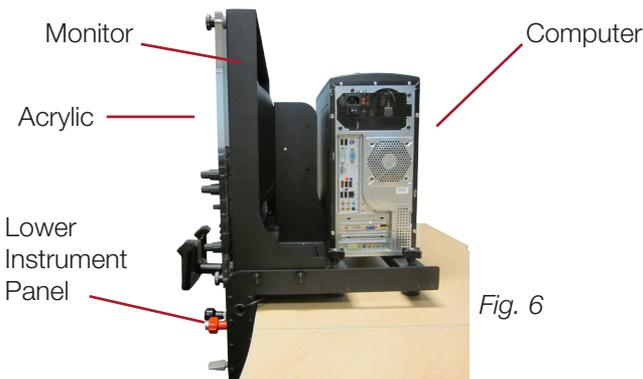

Fig. 6
- Place the Computer behind the Monitor on the Lower Instrument Panel. (See Fig. 6)